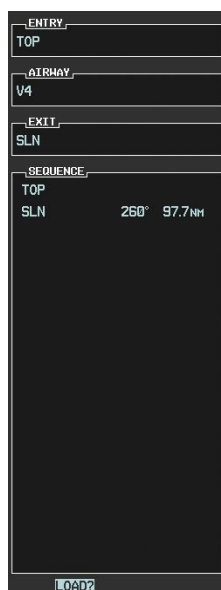

Figure 5-108 Ready to Load V4
- j) Press the **ENT** Key. The selected airway and exit are displayed, and the prompt "LOAD?" highlighted as in Figure 5-108.